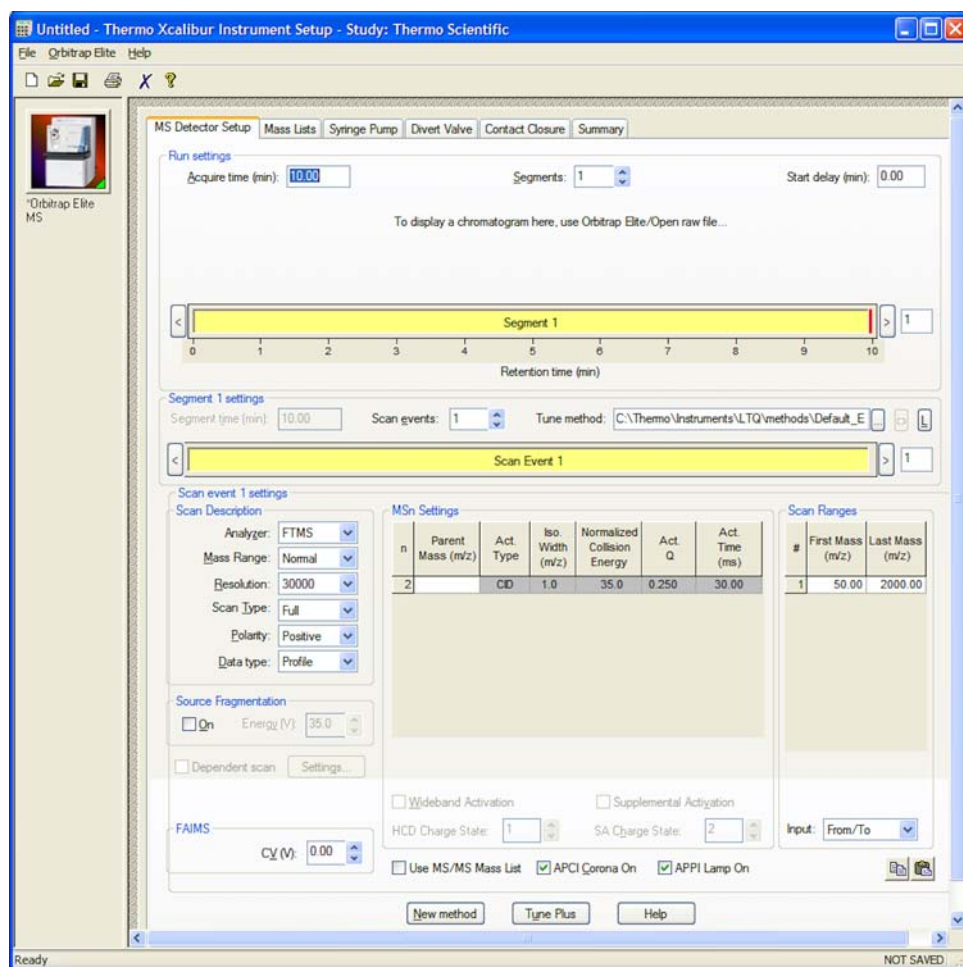

Figure 7-34. Xcalibur MS Detector Setup view
4. Click the **MS Detector Setup** tab if this is not already the selected tab in the Untitled-Instrument Setup window. See Figure 7-34.